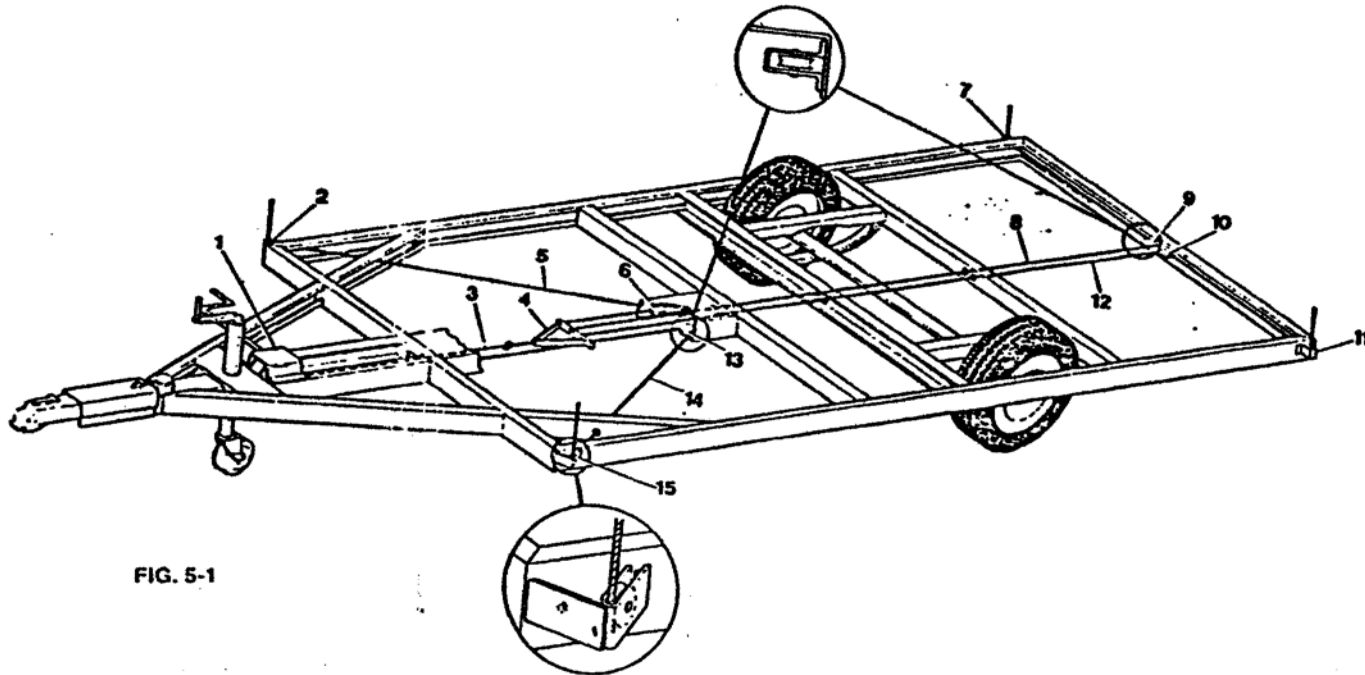

FIG. 5-1
Main Cable (3) originates at winch assembly (1) and is anchored to yoke (4). Outside Cables originate at yoke and are anchored to center channel of lifter assembly. Inside Cables are confined to the interior of lifter channels. See Figure 5-1.